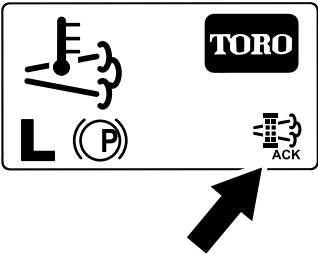

Figure 32
8. The InfoCenter displays the home screen and the regeneration acknowledge icon (Figure 32) appears in the lower right corner of the screen as the regeneration processes.